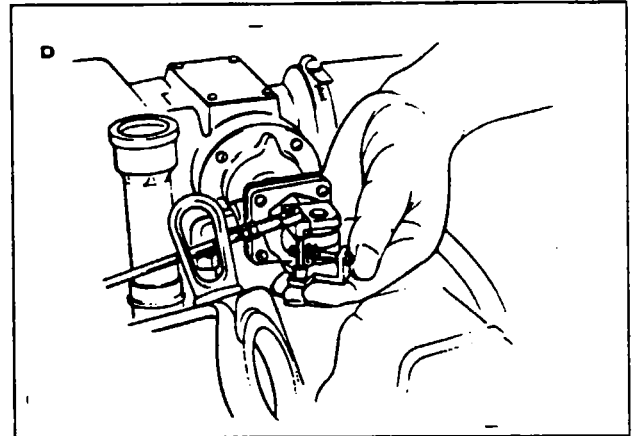
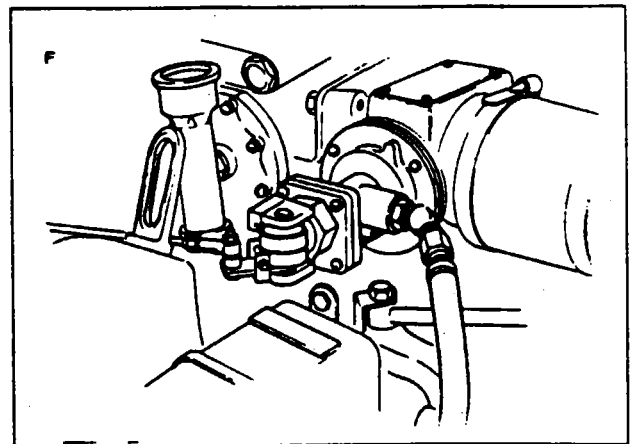

Figure 13d. Controller arm in full boost position.
Figure 13e. Controller connecting rod secured to controller arm in full boost position.
- g. Remove the controller connecting rod at the controller end. Push the controller arm against the full boost stop pin (forward). (See Figure 13d.) With the controller arm in this position and the throttle lever in the position obtained in the preceding step, adjust the controller connecting rod (maintaining approximately equal thread engagement on both ends) to match hole locations in both the controller arm and the connecting rod. Attach the connecting rod to the controller arm and remove the gauge from the injector stop pin. (See Figure 13e.)